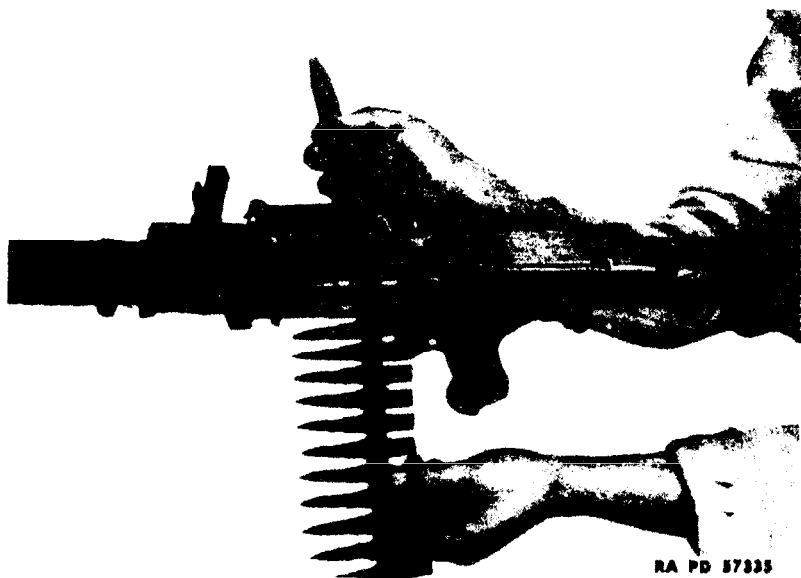

Figure 21 -- Loading Machine Gun with Belt
(5) After the operator has become proficient in loading the gun, he may keep the feed cover closed while loading. In that case, make certain the bolt is fully home and the safety at **FIRE** (letter "F" uncovered). Then, insert the leading tab into the feed opening on the left side of the gun, and pull it to the right until the three pawls on the underside of the feed cover engage the first round (fig. 21).